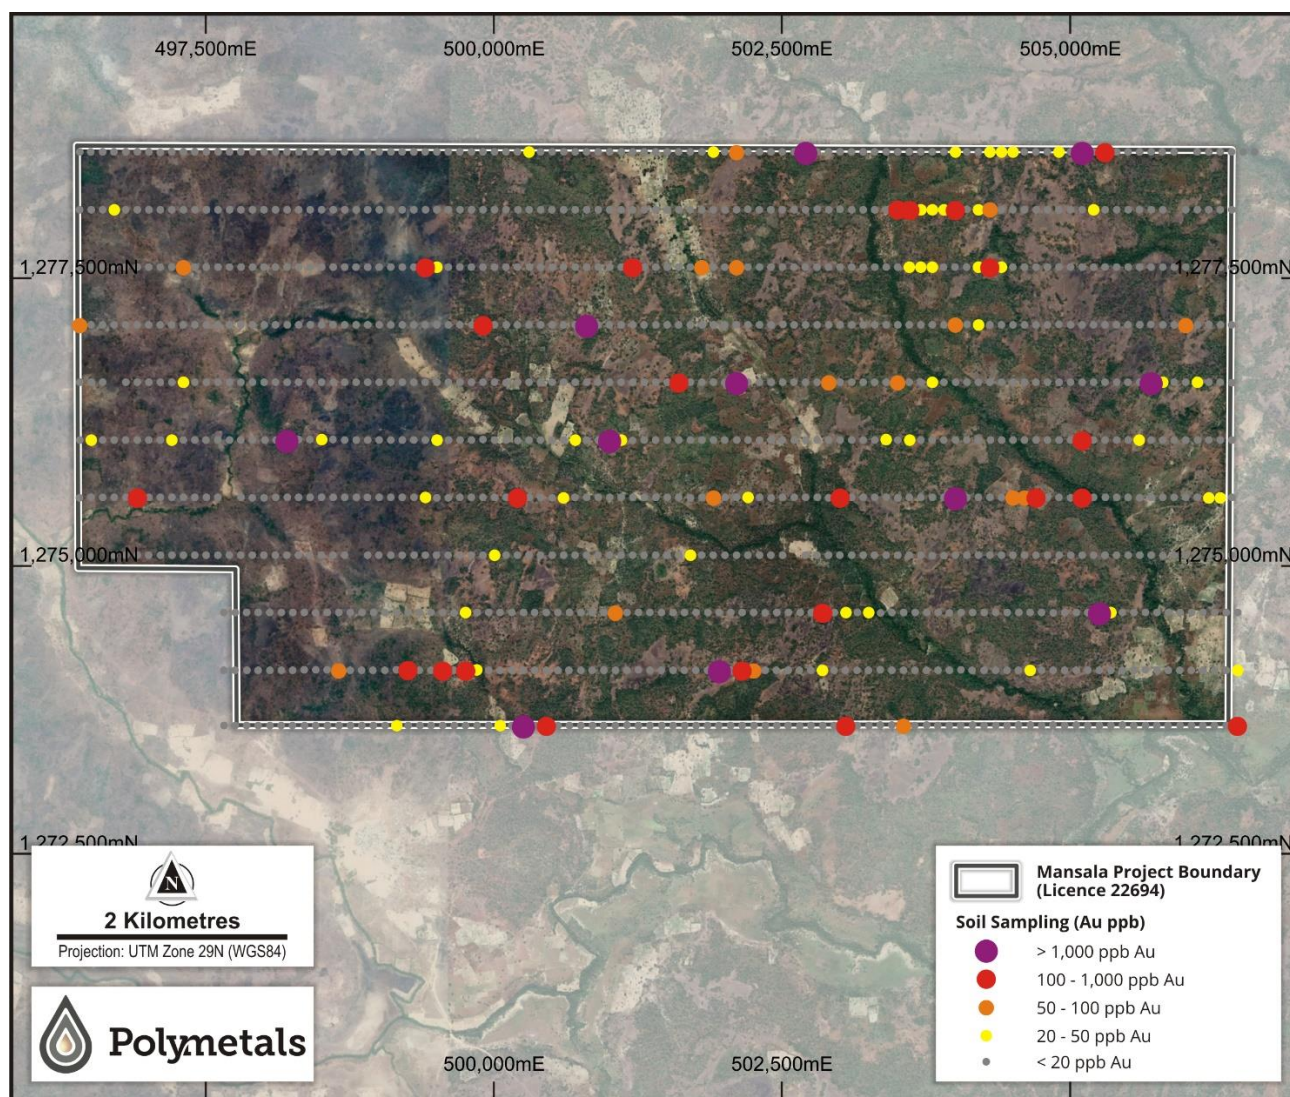

Figure 2: Mansala Soil Program. Gold (Au) assays superimposed on satellite imagery.
The results of the Mansala Soil Sampling have confirmed that in summary, 5.0km² or 10.4% of the area surveyed reported Au values in excess of 40ppb. Of particular interest are gold abundances which are illustrated in Figure 2. A total of eleven (11) samples returned Au assays in excess of 1,000ppb (1g/t) Au, and include values of 93.98g/t, 6.03g/t, 5.85g/t, 2.91g/t, 2.38g/t and 1.10g/t which are plotted in Figure 2.